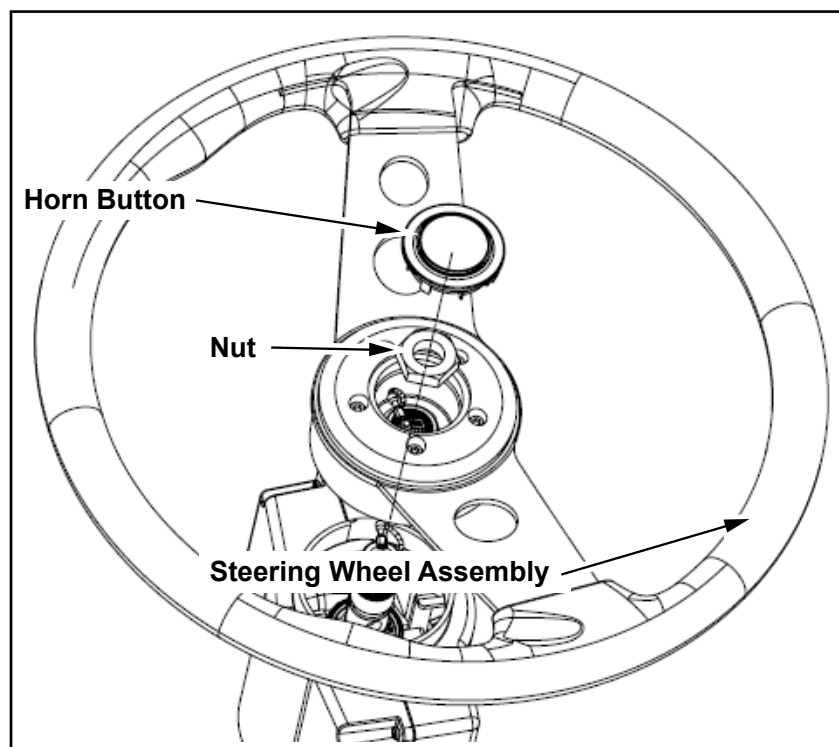

Figure 1
3. Remove the horn button from the steering wheel, disconnect the terminal from the button and set aside for reinstallation (see *Figure 1*).
4. Remove the steering wheel nut and discard (see *Figure 1*).
5. Using a steering wheel puller, remove the steering wheel and discard (see *Figure 1*).
9. Install the supplied steering wheel onto the steering column shaft using (1) GZ040066-001 steering column nut and tighten to 35 Lb-ft of torque (*see Figure 1*).
10. Connect the wire to the horn button and install the horn button (*see Figure 1*).